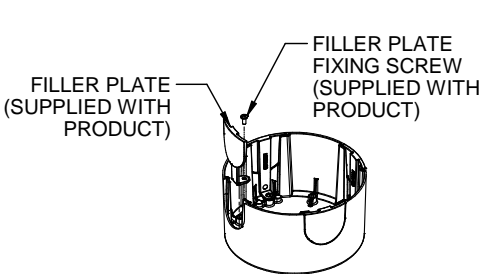

FIG 6.7A
6. To replace the Filler plates with 'U' Channel Inserts, unscrew the filler plate from the canopy and replace it with U channel insert and secure it with same screw (FIG 6.7A & 6.7B).